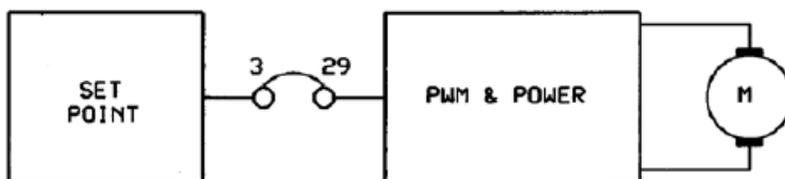

Fig. 4.5.1
- Carry out the circuit of figure 4.5.1